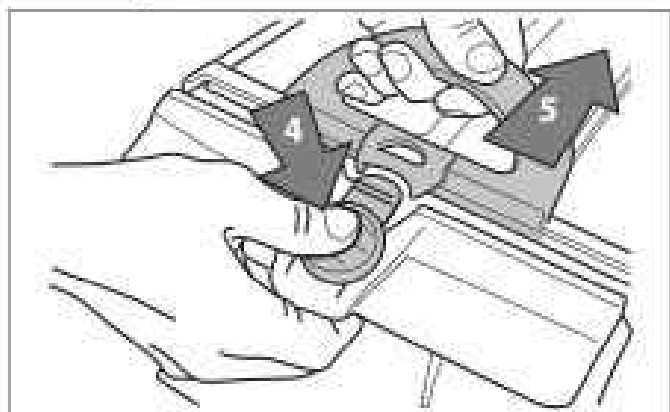

Figure 21. Open Filter Canister Assembly
5. Push the quick release button on the canister assembly (4) and pull open Figure 21.